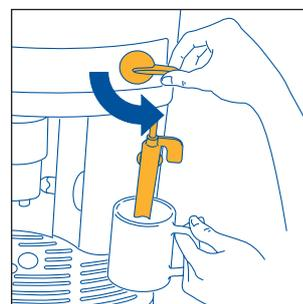
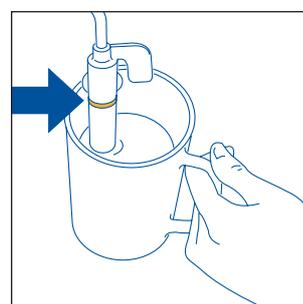

Fig.23
Fig.24
- **Immediately after, within a maximum of two minutes** (otherwise the machine automatically returns to the coffee function), dip the milk frother into the container of milk (Fig. 23), making sure not to immerse the line in relief on the milk frother (indicated by the arrow in Fig. 24) and turn the steam knob half a turn anticlockwise until it stops (Fig. 5). (*Be careful, to avoid being scalded*). The steam released will make the milk froth and increase in volume. To make creamier foam, dip the milk frother into the milk and rotate the container with slow movements from the bottom to the top (you are recommended to limit steam delivery to no more than two minutes at a time).